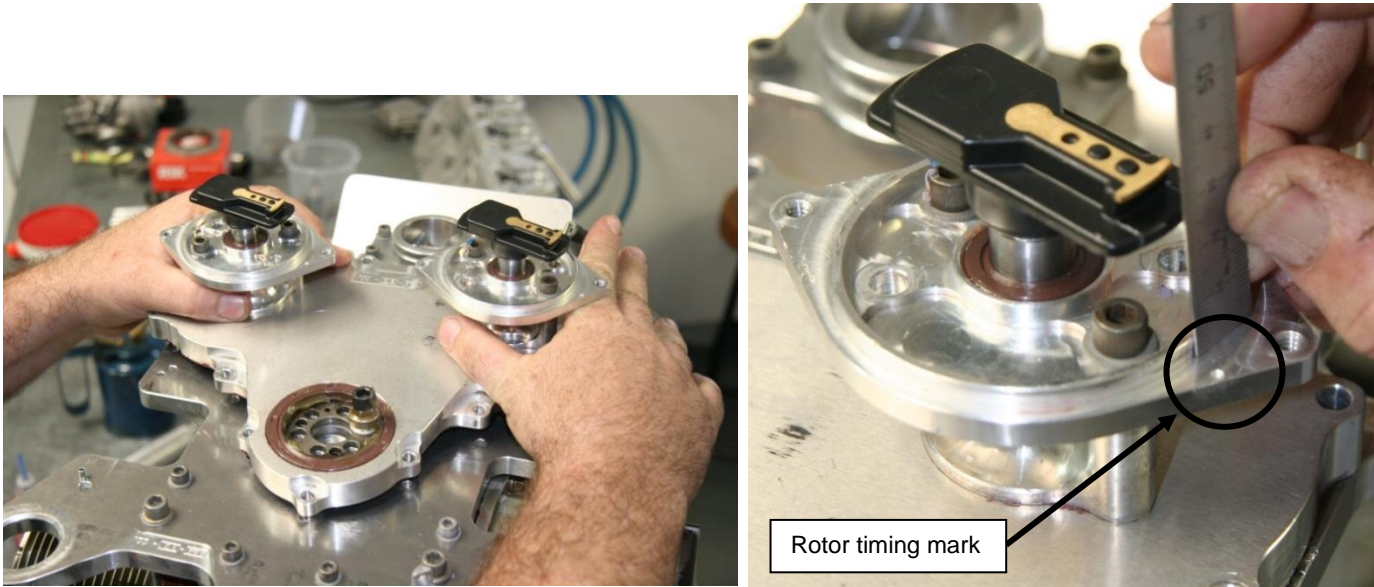

Figure 179 – Setting Distributors, Checking Rotor Position
- In this engine position manually align both distributor rotors to point to the timing mark engraved on the distributor mount plate – use a ruler to check that they are nearly parallel as shown in Figure 179. They will not be exactly parallel but they should be close – and provided the timing mark lines up with the tip of the cap it will work properly. Carefully lower and mesh the distributor gears with the outer camshaft gear.